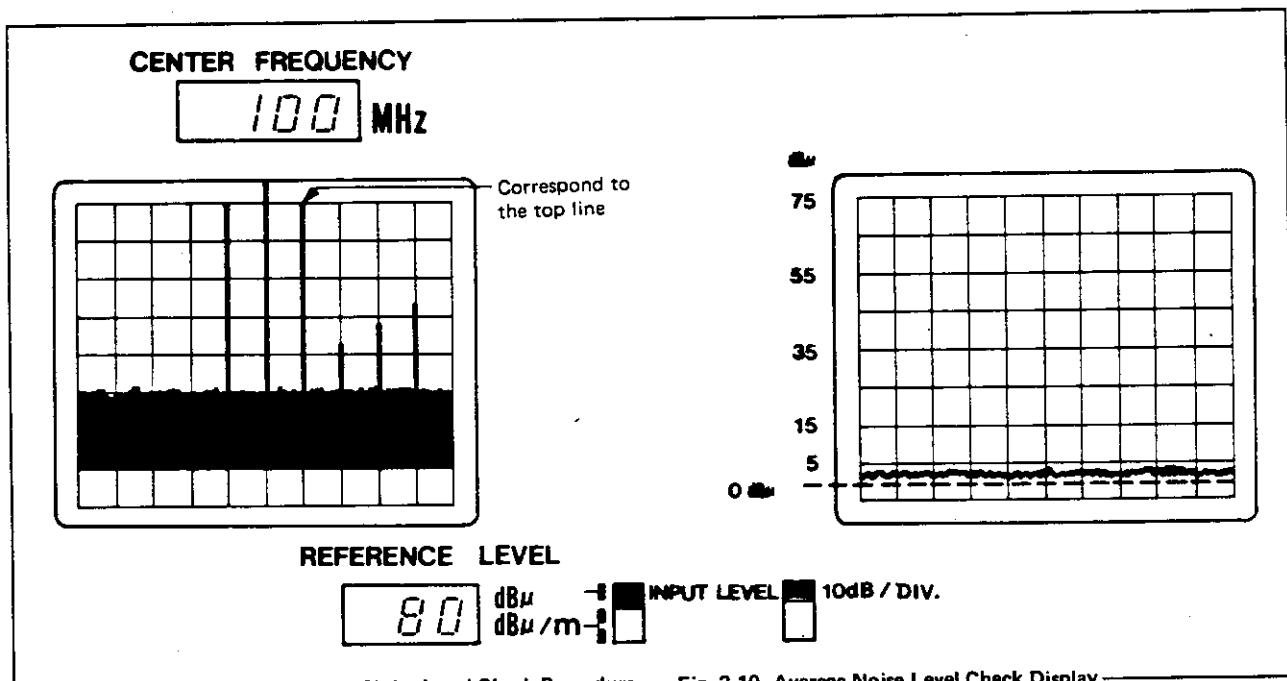
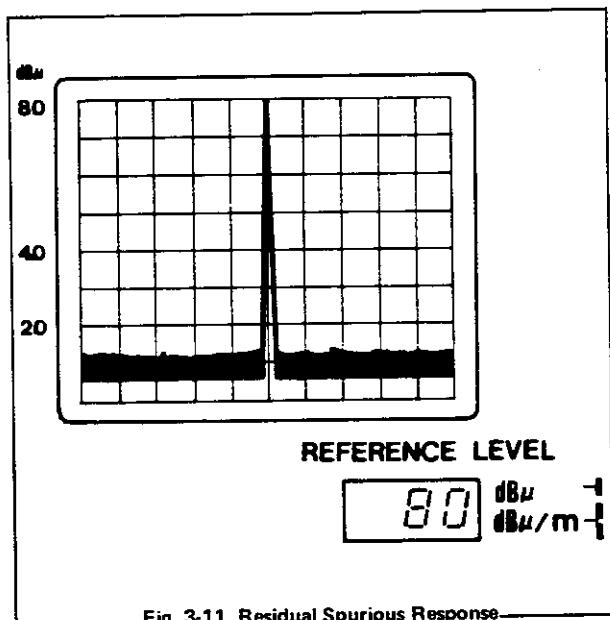

Fig. 3-9 Average Noise Level Check Procedure — Fig. 3-10 Average Noise Level Check Display
Fig. 3-10 Average Noise Level Check Display
- (1) Reset specific controls from the initial settings (Para 3-3-1-(3)) as follows:
- (2) Adjust **IF GAIN-CAL.** to correspond the peak of 100MHz CAL. signal to the horizontal top line. [Fig. 3-9]
- (3) Set **IF GAIN** inner switch (1dB-step) to +5dB (when **REFERENCE LEVEL** will read  $7.5\text{dB}\mu$ ).
- (4) Position the white-line of **SCAN TIME** at 11 o'clock position.
- (5) Set **DISPERSION/DIV.** to 0.1MHz/DIV. and **VIDEO FILTER** to 100Hz respectively.
- (6) Check that the noise level is below  $5\text{dB}\mu$ . [Fig. 3-10]